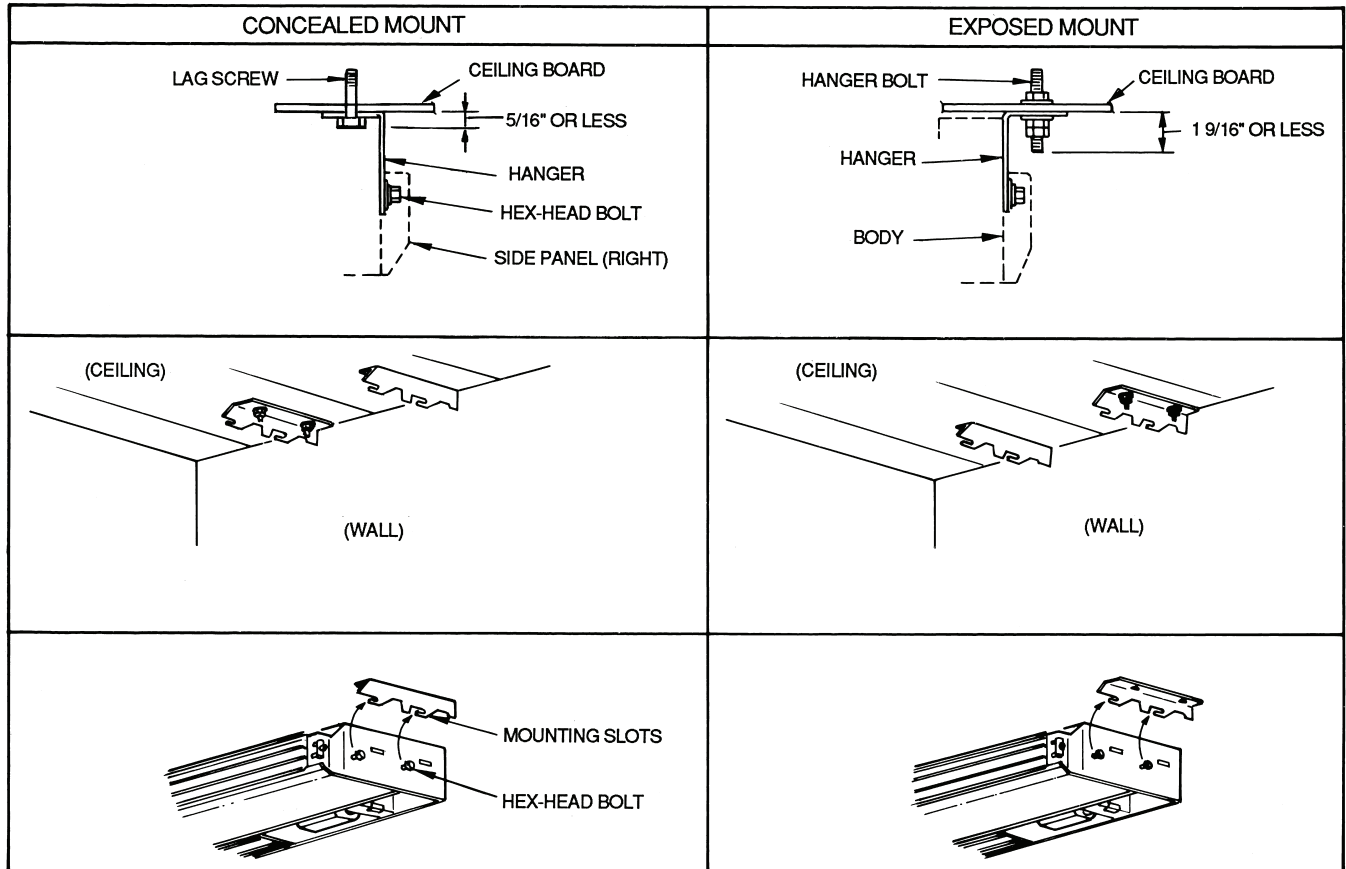

Fig. 13 - Mounting Hanging Brackets
- b. Mount hanging brackets on ceiling (see Fig. 13) for either concealed or exposed bolt hanging position.